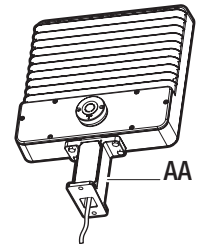

Fig. 6
- Attach the extension arm (AA) on the fixture by tightening the four screws removed earlier. (Fig. 6)